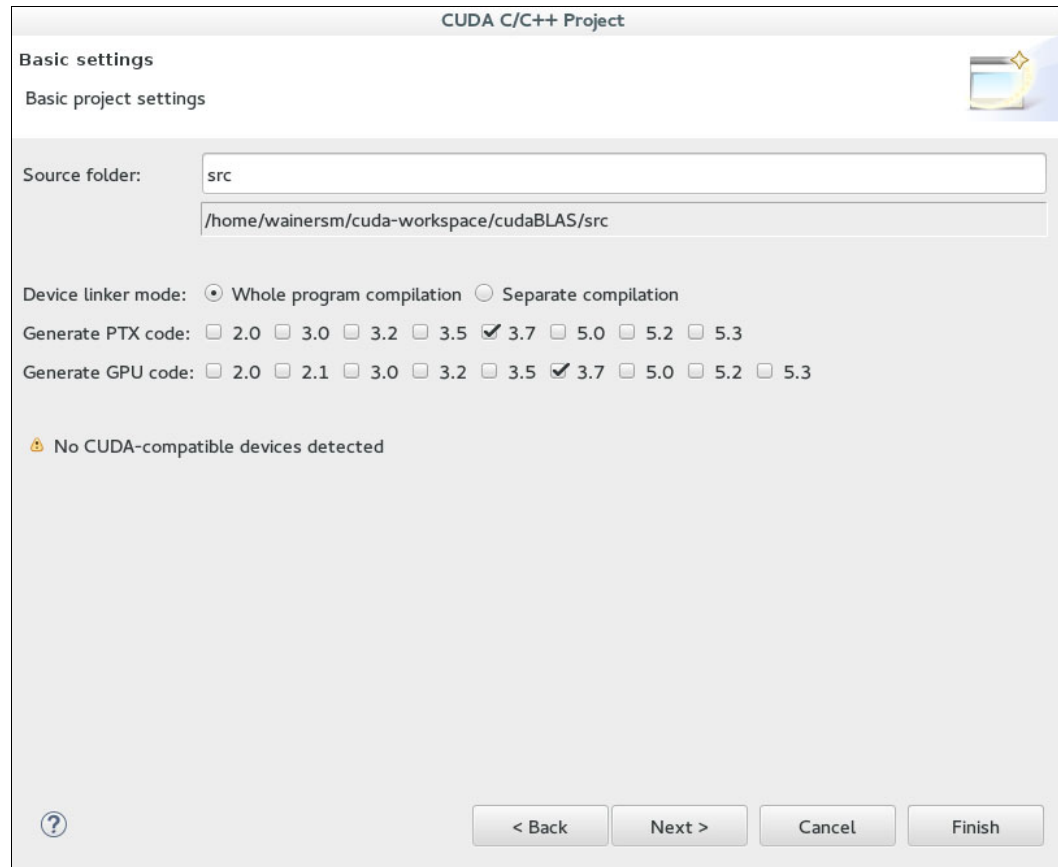

Figure 9-34 Nsight: New CUDA C/C++ project basic settings
3. Select **3.7** for the **Generate PTX code** and **Generate GPU code** options, as shown in Figure 9-34. Click **Next**.